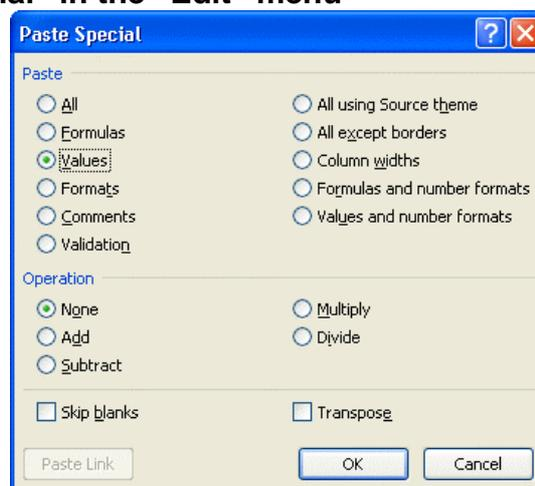

Figure 1: Window-menu of the paste special function in excel.
- ⇒ **If you need to copy data into the unlocked cells than please do this with the function "paste special" by selecting "values" (see figure 1). You can find "paste special" in the "Edit" menu**
The cells containing conditional formats are not protected, thus they can be changed and deleted by you, for example by copying contents from other cells. (Therefore copy only with “paste special” / see also Figure 1)